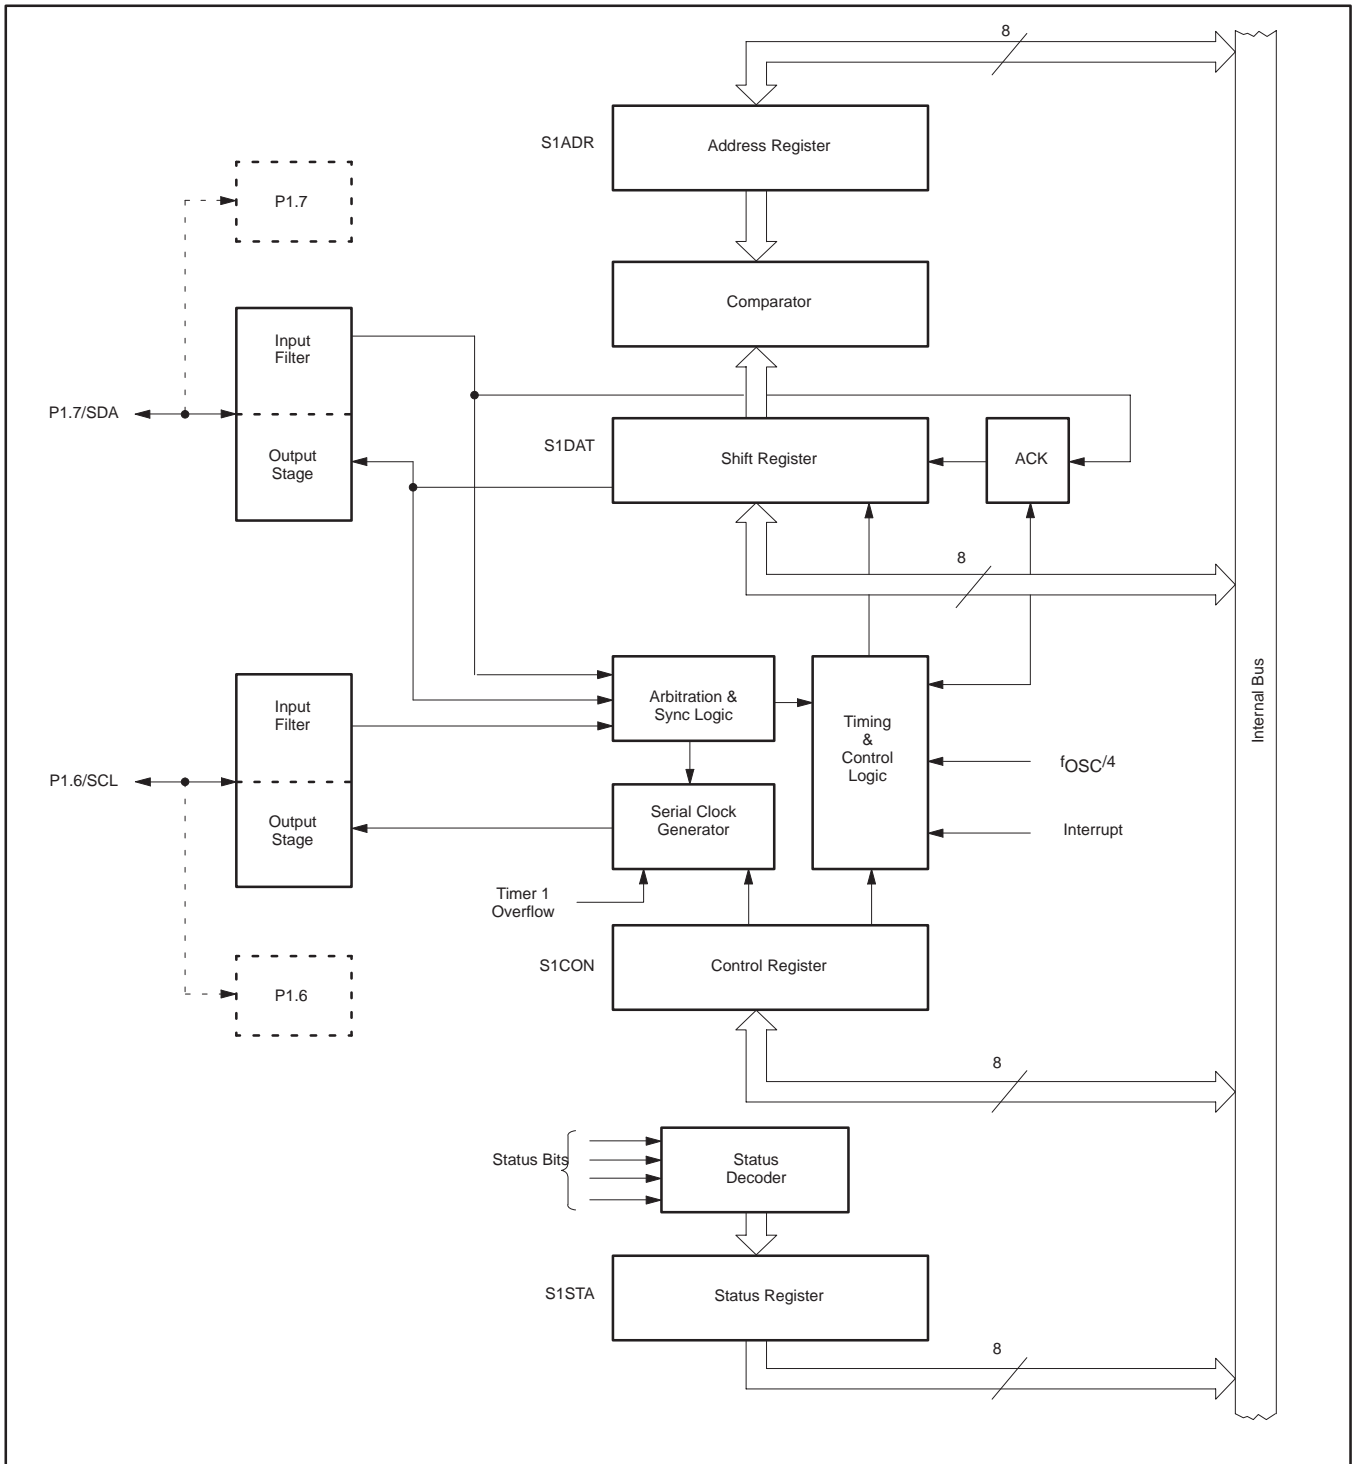

Figure 12. I2C Bus Serial Interface Block Diagram
**SIO1 Implementation and Operation:** Figure 12 shows how the on-chip I2C bus interface is implemented, and the following text describes the individual blocks.